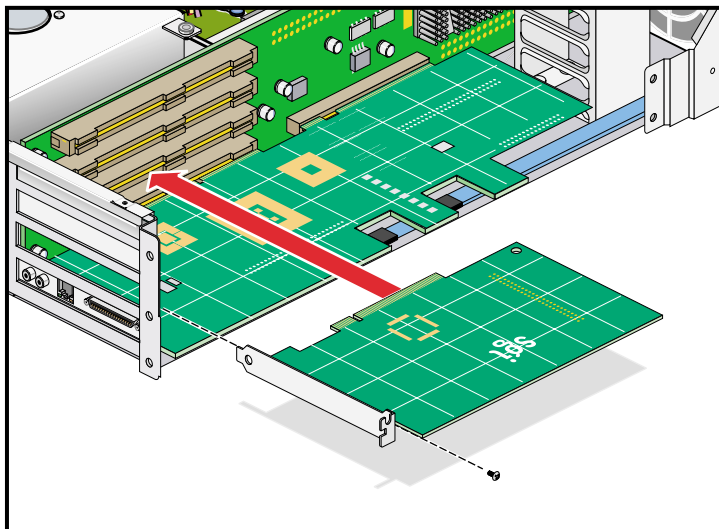

Figure 4-9 Installing the Card and Retaining Screw
11. Insert the card into the slot by pushing the card into the connector until it is properly seated and install the retaining screw, as shown in Figure 4-9. If you have installed the card into one of the upper two slots, proceed to step 13.